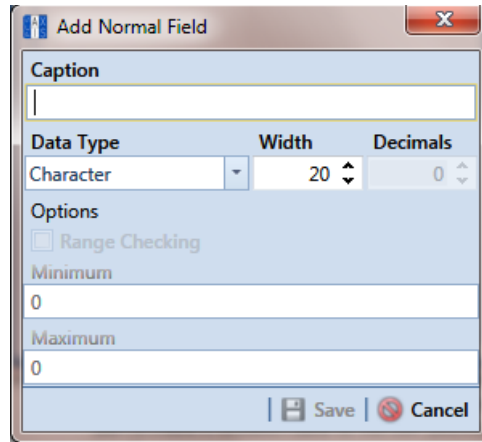

Figure 2-27. Add Normal Field
- 4 Click  **Normal** in the toolbar to open the *Add Normal Field* dialog box (Figure 2-27).